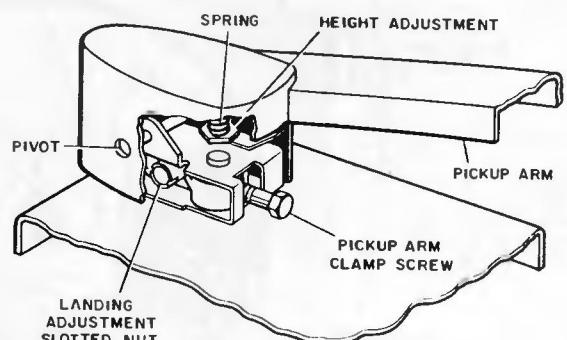

Figure 4—Pickup Arm Height and Landing Adjustments
**LANDING ADJUSTMENT (Fig. 4)**
**PICKUP ARM HEIGHT ADJUSTMENT (Fig. 4)**